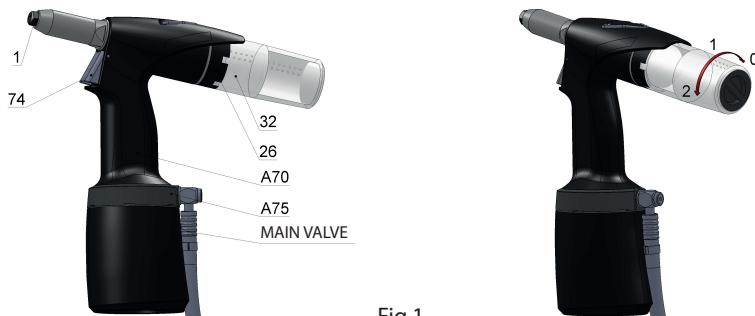

Fig.1
The manufacturer equipped the tool with a nose-piece /fig.1 – pos.1/ for a rivet Ø 6.4. Riveting with blind rivets of different diameters (further on referred to as BR) requires use of appropriate nose-pieces that are located in the accessories casing of the tool.
Replacement of nose-pieces: Connect the tool to the source of compressed air, depress the trigger and screw out the nose-piece /fig.1 – pos.1/ with a spanner no. 12. Screw on a new nose-piece /acc. to the chart/ and tighten it. Now you can release the trigger of the tool.
The tool is equipped with revolving air supply /fig.1 – pos.A75/ which enables manipulation with air supply before as well as during tool operation, air hose does not obstruct riveting in any position.
The tool is equipped with multifunction trigger /fig.1 - pos.74/ which enables following:
- Unlock the trigger (shifting the trigger down to the stop) and release it. The suction is switched on and the trigger is in position see fig. 1.
The tool is equipped with a multifunctional mandrel container /fig.1 - pos.32/ which has the following positions:
Put and push the mandrel container /fig. 1 - pos. 32/ into the ring relief /fig.1 – pos.26/ end-to-end, thus you depress the arrestment element, and turn to position 1 or 2. The mandrel container shall thus be in place. The suction shall initiate in position 2. Relative position of the mandrel container with air outlets /fig.1 - pos.32/ and the ring relief /fig.1 – pos.26/ ensures that the outlet air pressure goes out in a suitable direction (e.g. offward the operator of the tool).
Turn the mandrel container /fig.1 - pos.32/ end-to-end to position 0 and pull it out of the ring relief /fig.1 – pos.26/. The suction shall thus switch off.
Suction switches off by turning and removing the mandrel container /fig.1 - pos.32/. Insert BR into the riveting tool through the nose-piece hole. Depress the trigger to move the jaws offward the BR head. The movement ends when reaching max. stroke, correct BR with respect for material gauge shall tear off the shank (riveting) for one stroke of the tool. Releasing the trigger shall return the jaws to initial position and released torn-off shank can be removed from the nose-piece by tilting the tool. /fig.1 - pos.1/.
Mounting and turning the mandrel container /fig.1 - pos.32/ to position 1 shall arrest it. Insert BR into the riveting tool through the nose-piece hole. Depress the trigger to move the jaws offward the BR head. The movement ends when reaching max. stroke, correct BR with respect for material gauge shall tear off the shank (riveting) for one stroke of the tool. Releasing the trigger shall return the jaws to initial position and the released torn-off shank can be transported into the mandrel container by tilting the tool.
Suction switches on by turning the mandrel container /fig.1 - pos.32/ to position 2. In this position the suction holds BR in the nose-piece /fig.1 - pos.1/ which enables riveting in any position without danger of BR falling out of the nose-piece of the tool. Depressing the trigger shall perform riveting. Releasing the trigger shall transport the shank into the mandrel container. If the mandrel container